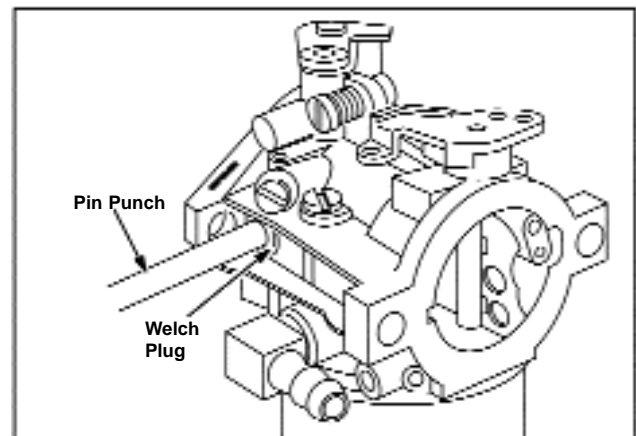

Figure 49 - Installing Welch Plug
2. After plug is installed, seal outside edge of plug with fingernail polish or non-hardening sealant. See Figure 49.